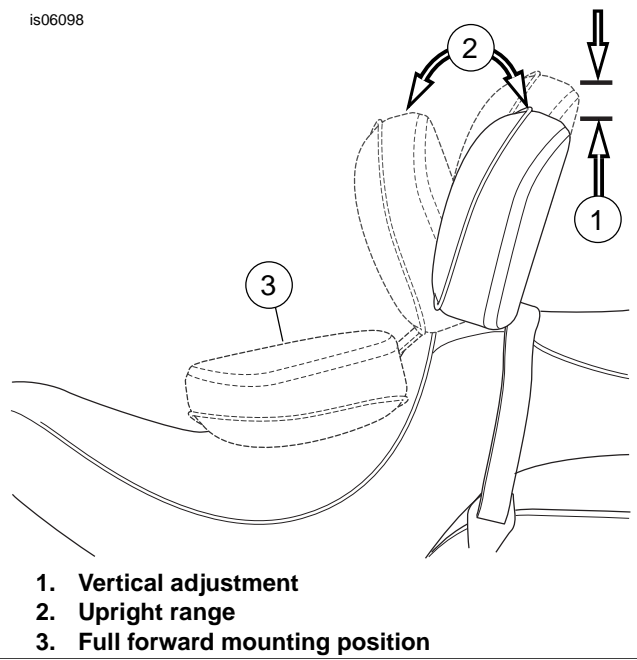

Figure 12. Backrest Postions
7. See Figure 12. With the backrest and seat in place, push the backrest to the fully forward position (3). The backrest mechanism presses against the underside of the seat and against the inserted seat protector.
1. See Figure 12. The adjustment handle is used to move the backrest pad into the forward and rearward positions.
2. To adjust the backrest pad forward or rearward (2), push the handle. Leaning back against the backrest pad helps adjust it rearward. Keeping your weight off of the backrest pad while pushing the handle causes the backrest to come to its full forward position. Releasing the handle locks the backrest into place.
3. To adjust the backrest pad up and down (1), pull the knob on rear of pad. Move the backrest up or down into the desired position then release when the pad is in the desired position.